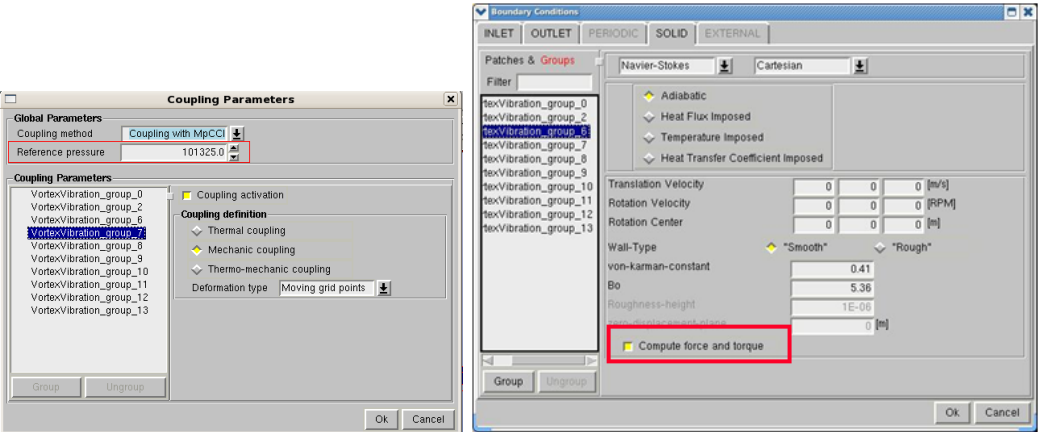

Figure 4: Setting a reference pressure and Force and Torque in Fidelity Fine Open GUI
- the definition of the reference pressure and the activation of the Force and Torque Figure 4.